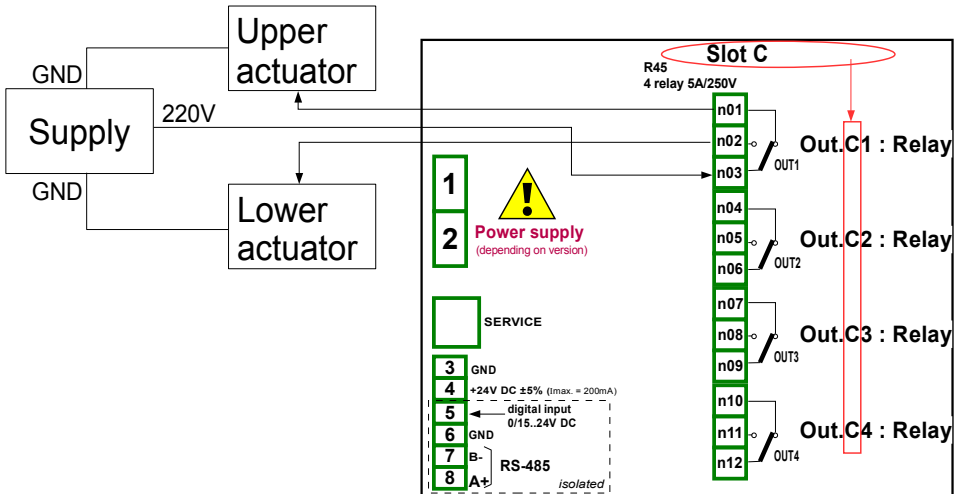

Fig. 7.71. Schematic diagram for the **R45** module
Before connecting a relay to the device, the user should configure the device, and then connect them as it is shown in **Fig. 7.71**. After setting the configuration of the physical inputs we can configure the input channel to read the output value.
- **Source** parameter set as **Out. C1: Relay** (see the connection in **Fig. 7.71**),